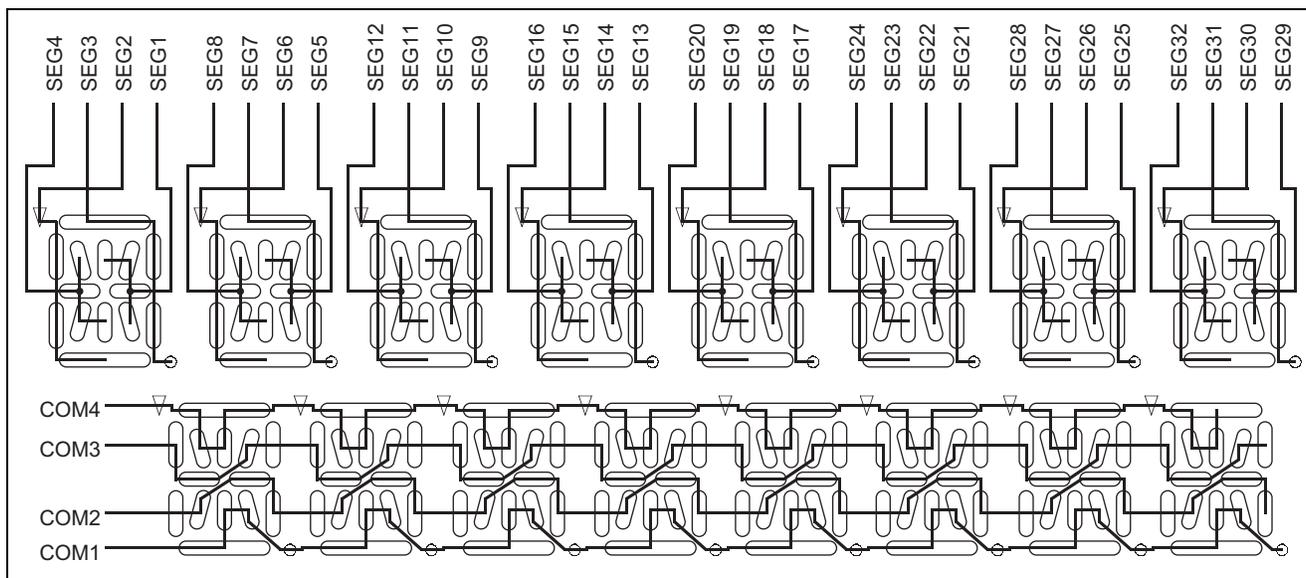

Figure 2.2 Connection between Segment Signals and Common Signals of 8-Digit 16-Segment LCD Used in this Sample Task.
4. In this sample task, the 8-digit 16-segment LCD display is performed with 1/4 duty cycle by segment external extension. Figure 2.2 shows the connection between the segment signals and common signals of 8-digit 16-segment LCD used in this sample task.